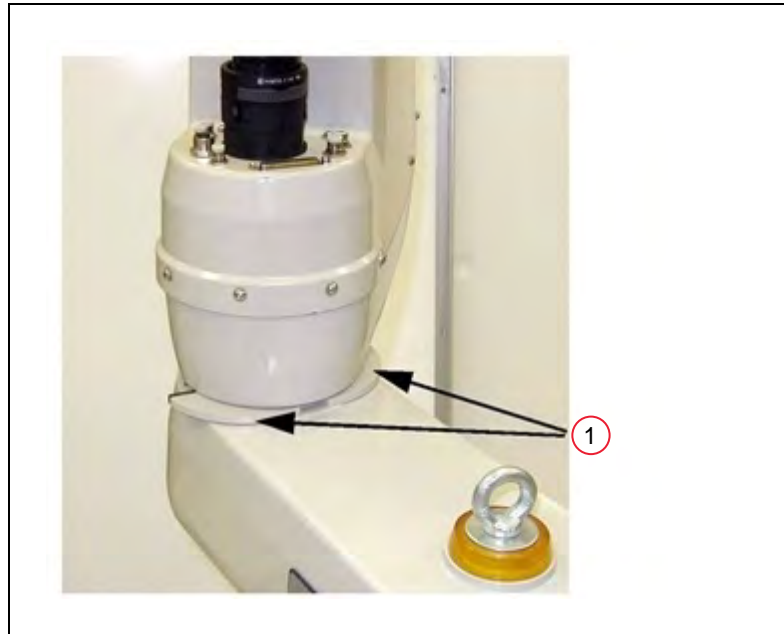
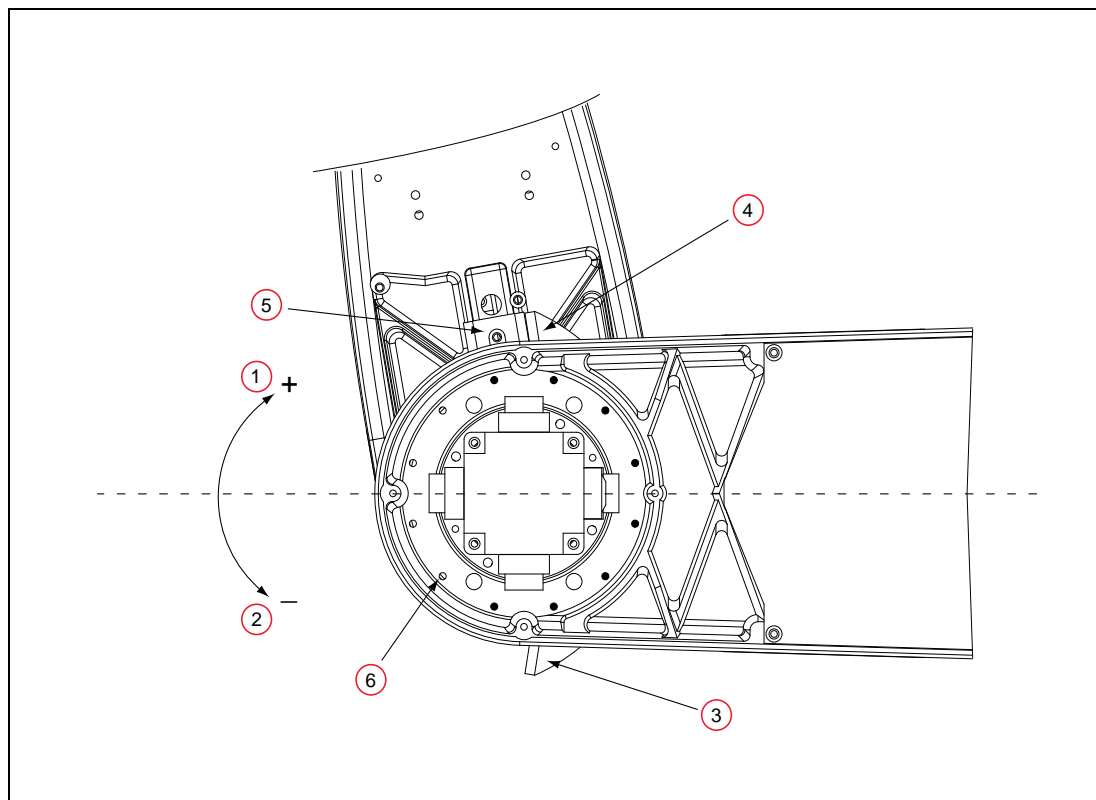

Figure 7-21. (1) Joint 2 Adjustable Hardstop Locations
Figure 7-22. Screw Locations for Joint 2 Adjustable Hardstops (under side of Inner Link, looking up)
1. Slide the two adjustable hardstop plates into the space between inner and outer links. See Figure 7-21. Looking up at the inner link from underneath, align the holes in the plates with the holes in the inner link. See Figure 7-22.